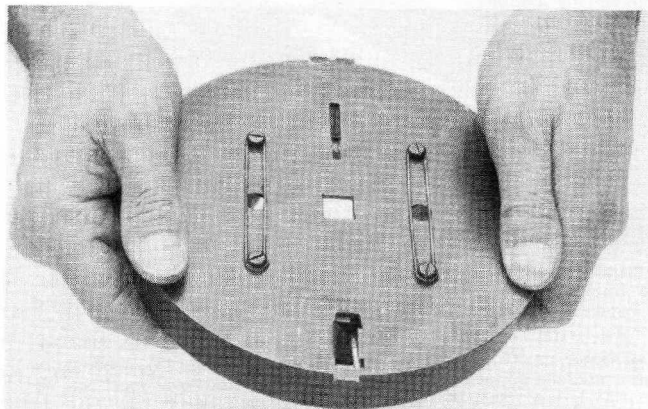

Figure 12
- b. Press the lock on the base and turn the magazine base until you can see the filled chamber through the loading slot of the base (figure 12). The marking arrow visible on the magazine base should be positioned below the narrow protrusion of the base.